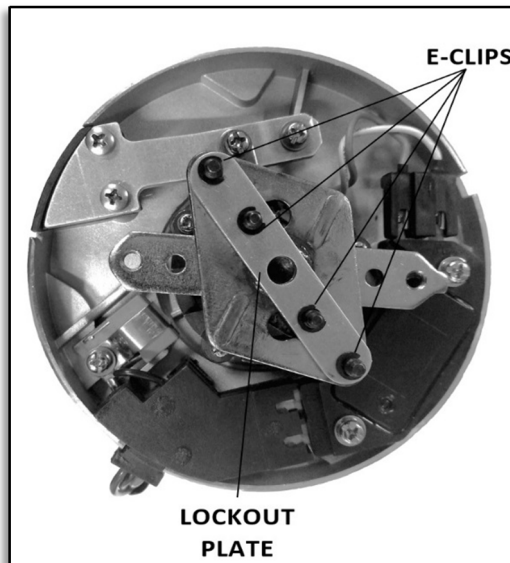

Figure 4. Lock out plate assembly
3. Install the lockout plate and the e-clips to secure the plate. This locks the advance in place (Figure 4).